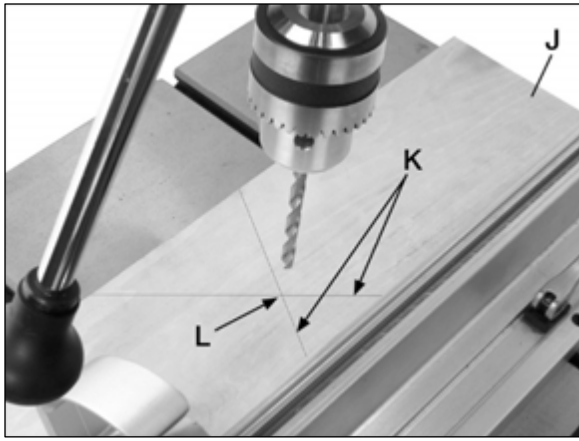
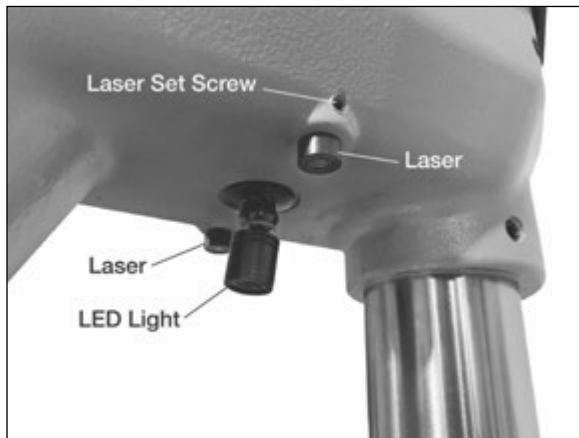

Figure 8-8
Figure 8-9
1. Place a wooden board (J, Figure 8-8) flat on table. Do not allow board to move from this position; use clamps if needed. Bring the bit down until it leaves a slight indentation in the board; then raise the bit back up.
2. Loosen the laser setscrew on one side of the drill press head (see Figure 8-9). Using your thumb and forefinger, slightly rotate the laser left or right until it bisects the drill bit indentation on the board (K, Figure 8-8). Tighten the laser set screw to lock this laser in place.
3. Repeat step 2 with the laser on the other side of the drill press head. Make sure the second laser bisects the drill bit indentation (L, Figure 8-8). The two lasers will now form an "X" with the center of the "X" at the precise point of the drill bit indentation.
The LED light is activated by the front panel switch. Press on the outer rim of the light to adjust (see Figure 8-9).